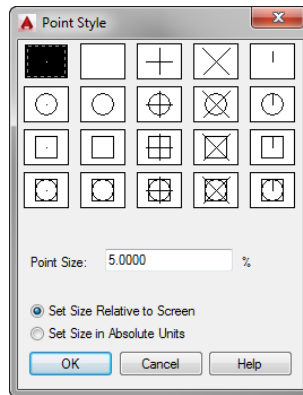

FIGURE 9.14: The Point Style dialog box
- With layer 0 current, from the menu bar, expand the Utilities panel on the Home tab and choose Point Style, or enter **DDPTYPE**.↵ to open the Point Style dialog box (see Figure 9.14).